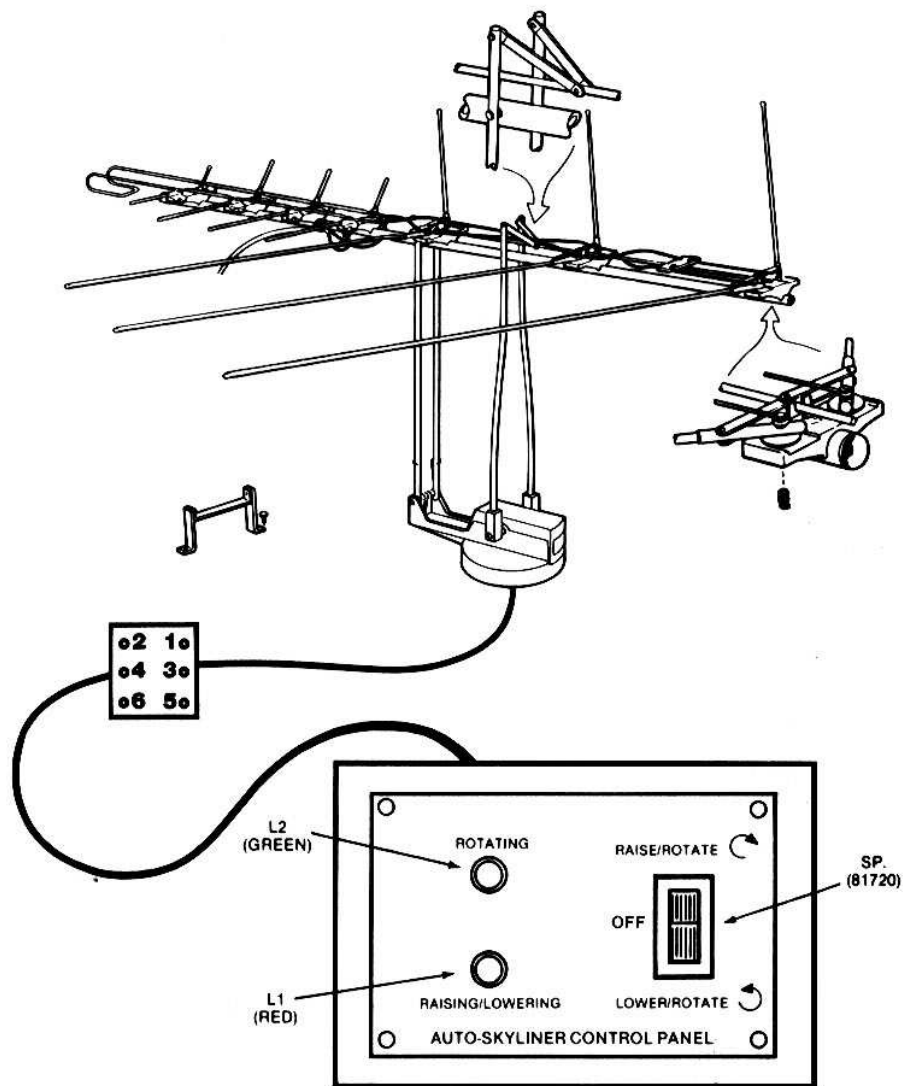

Fig. 35
The control panel (Fig.35) located on the interior wall of your trailer contains a "center off" rocker switch (81720), Red lens assy. (81725) and green lens assy. (81724). Located on the rear of the panel are the two lamps (81723), wire harness (12531) with 6 pin connector (81719) for connection to the control cable (12533). Also provided is a black wire for 12 volt positive and a white wire for 12 volt negative/ground connections.
With the control panel switch (SP)(Fig.35) in the center position, the unit is OFF.